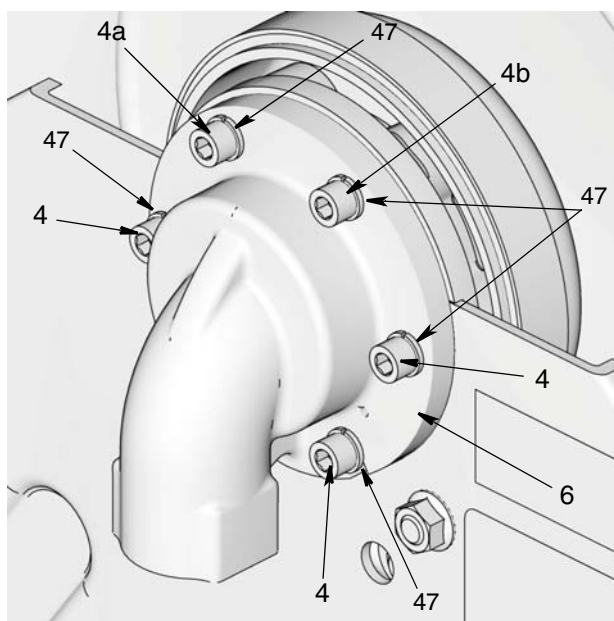

FIG. 3
For the following steps, refer to FIG. 3.
5. First install the top 2 bolts (4a and 4b) and lock washers (47) as shown in FIG. 3. Tighten bolts just enough to hold everything in place.
6. Then install the remaining bolts (4) and lock washers (47). Hand tighten and then torque all bolts to 25 to 35 ft. lbs (33.9 to 47.45 N•m).